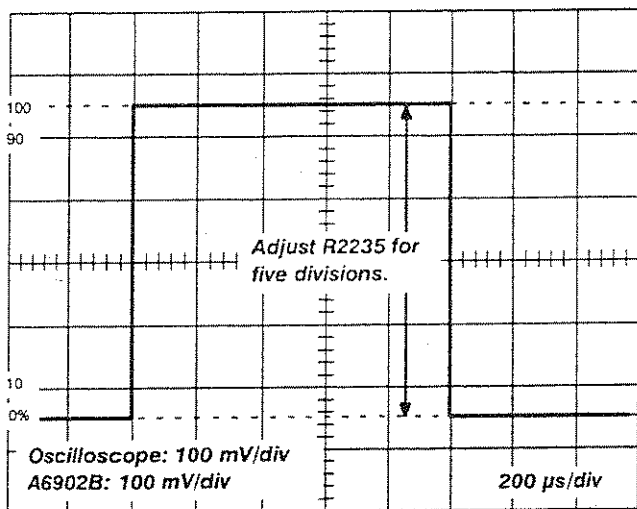

Figure 5-2: Gain adjustment R2235 (R2735)
- e. Adjust R2235 (R2735) for an exact five-division display referenced to the trailing edge of the square wave. See figure 5-2.